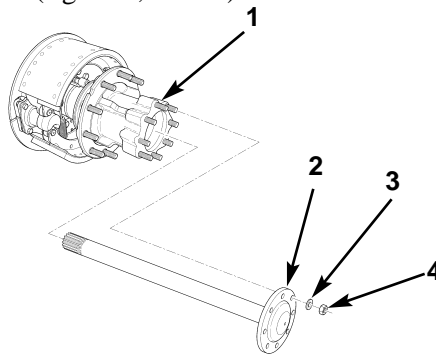

Figure 8. Removing Axle Shaft.
3. Position clean, dry drain pan under rear-rear axle hub (figure 8, item 1), and remove eight locknuts (figure 8, item 4), washers (figure 8, item 3), and axle shaft (figure 8, item 2) from hub (figure 8, item 1). Discard locknuts (figure 8, item 4).